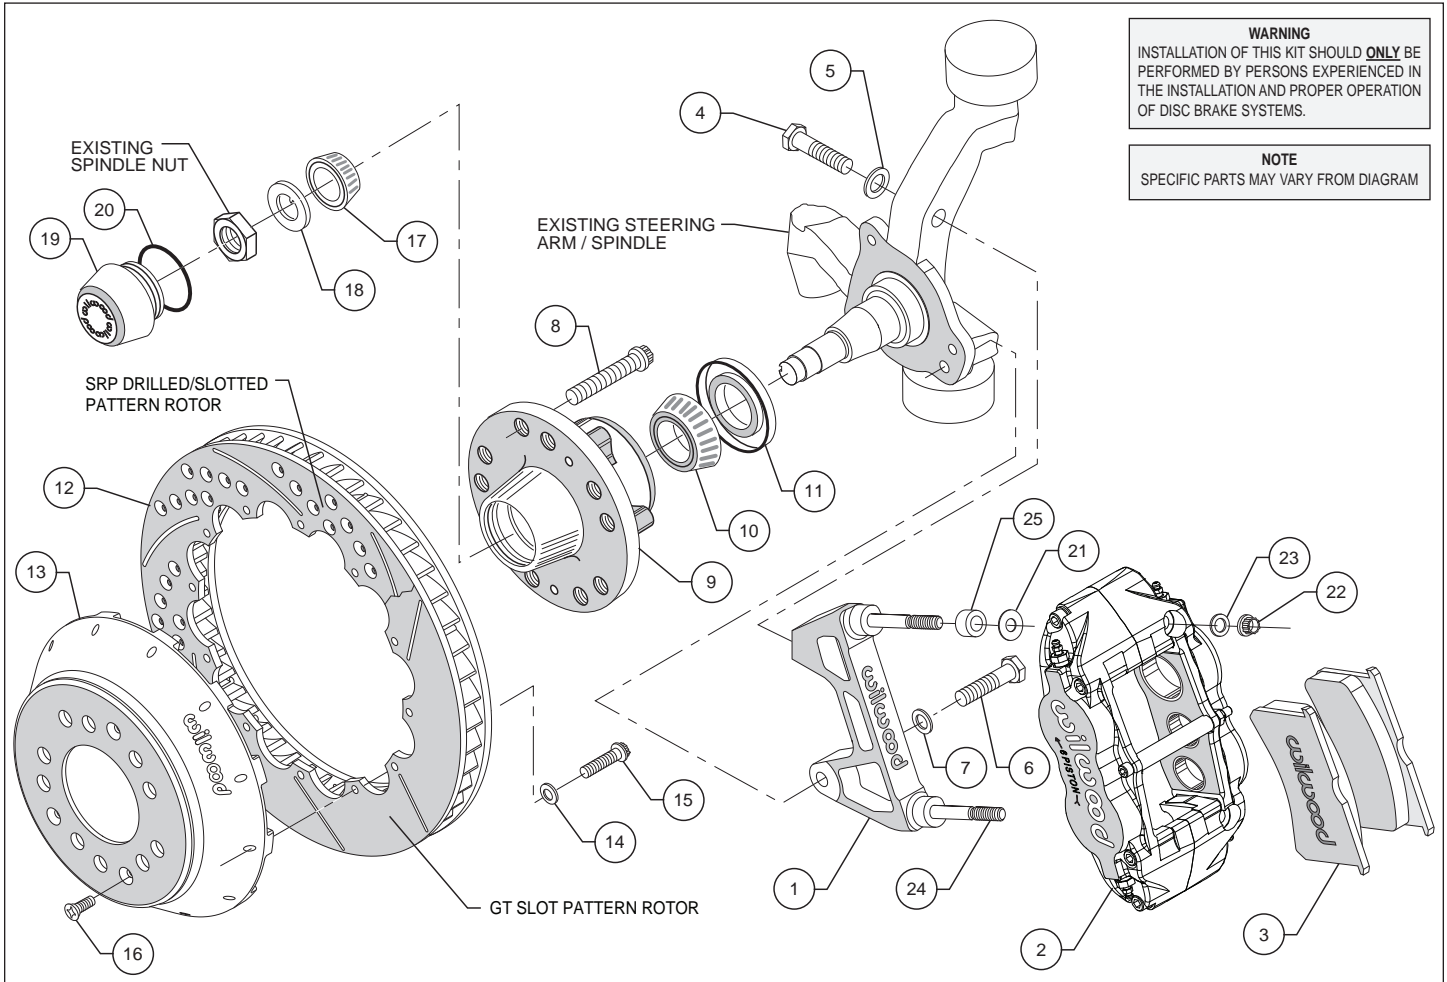

Figure 1. Typical Installation Configuration
- Slide the rotor/hat assembly over the studs (8) in the hub (9) taking care to align the small countersunk holes in the hat (13) with the small threaded holes in the hub (9). Install three flat head socket head screws (16) through the small holes in the hat (13) and torque to 85 **in-lb**. Check to be sure the hat seats squarely against the spindle.
- NOTE:** *This kit contains distinct right and left hand calipers that must be mounted in a specific direction, as described below.* Lubricate the caliper mounting studs (24) with lightweight oil. Initially place one .035" thick shim (21) and spacer (25) on each stud as shown in Figure 1. Mount the caliper (2) onto the bracket (1) using lock nuts (22) and washers (23), Figure 1. Ensure that the caliper is mounted so that the largest pistons are at the rotor exit end of the caliper, in relation to the direction of rotor rotation.
- Remove the caliper center bridge pad retainer bolt, nut, and tube from the caliper. Slide the brake pads (3) into place. They should install easily without interference. Check that the outside radius of the brake pad is aligned with the outside diameter radius of the rotor face. Add or subtract shims (21) between the caliper and mount bracket to gain the proper alignment. Lubricate caliper mounting studs and nuts with lightweight oil, reinstall the caliper and torque the caliper nuts (22) to 28 ft-lb. Reinstall the center bridge pad retainer tube, bolt, and locknut. The locknut should be snug without play in the bolt or tube. Be cautious not to over tighten.